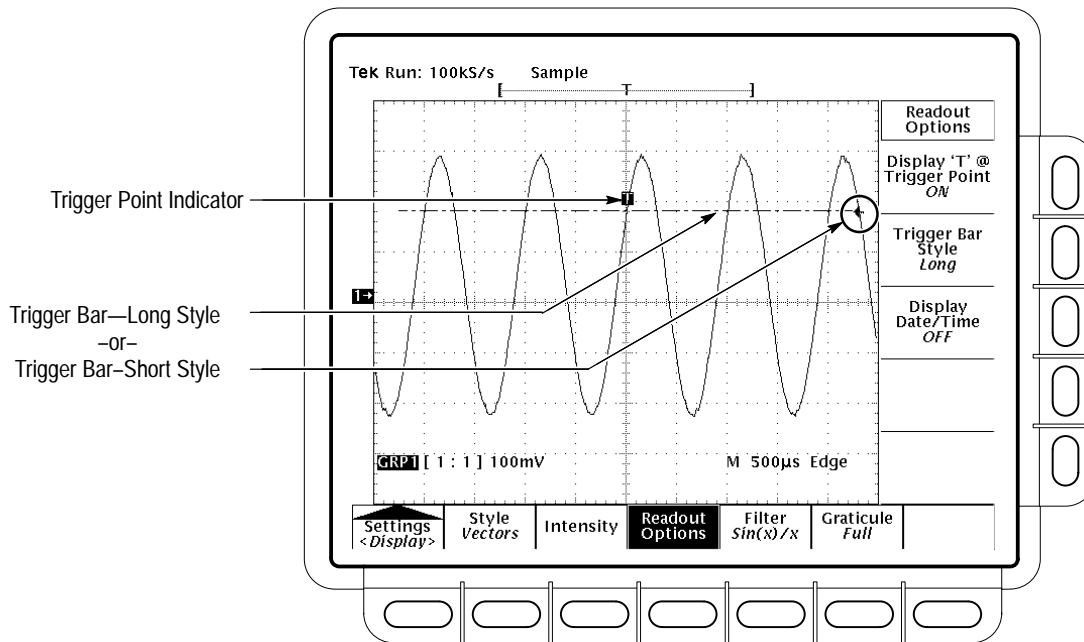

Figure 3-18: Trigger Point and Level Indicators
3. Press **Trigger Bar Style** (side) to select either the short or the long trigger bar or to turn the trigger bar off. (See Figure 3-18. Note that both styles are shown for illustrating purposes, but you can only display one style at a time.)